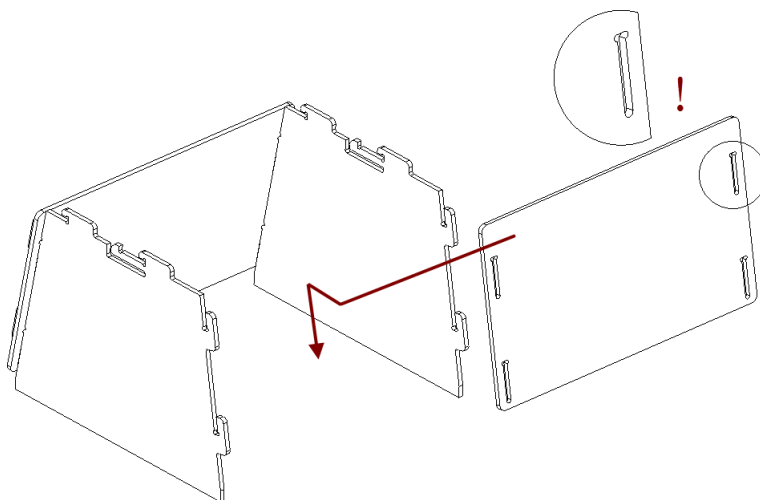

Figure 221: Assembling the back wall.
2. Install the back wall in the same way (see Figure 221).